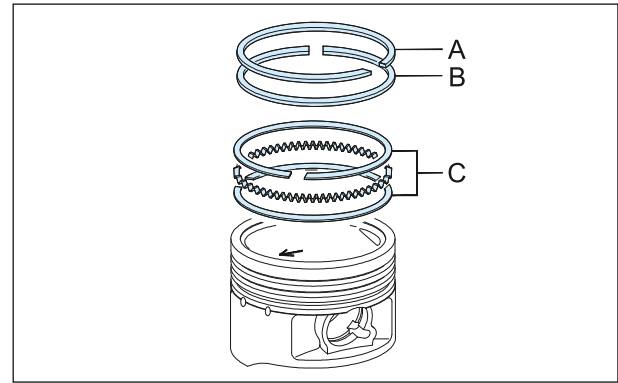

Fig. 3.69
- Remove the ring piston top (A). (Fig. 3.69)
- Remove the piston ring 2nd (B). (Fig. 3.69)
- Remove the 3 piece oil ring (C). (Fig. 3.69)